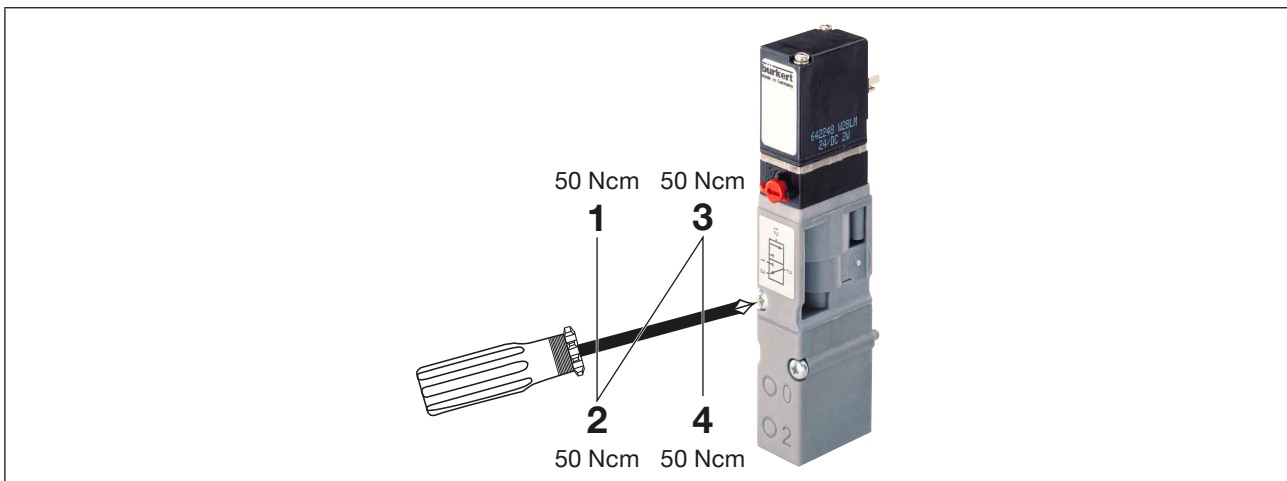

Fig. 80: Tightening the screws when replacing valves type 6526 and type 6527
- Tighten the fastening screws crosswise, observing the tightening torque (see "Fig. 80").